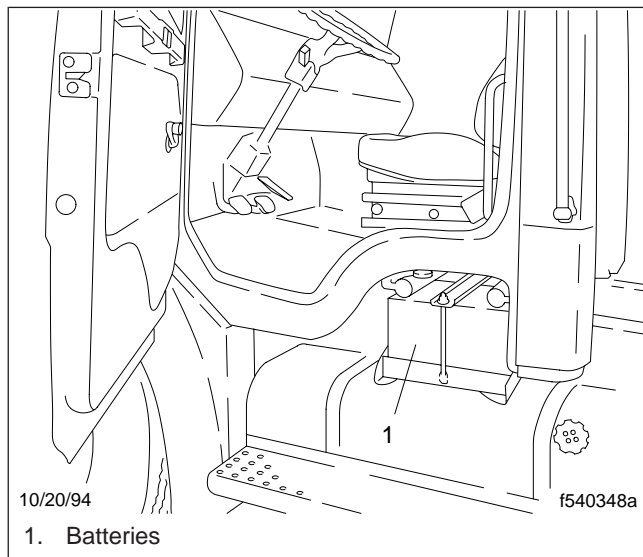

Fig. 9.1, Battery Location
2. *Inspect the batteries (Fig. 9.1) and battery cables as follows:*